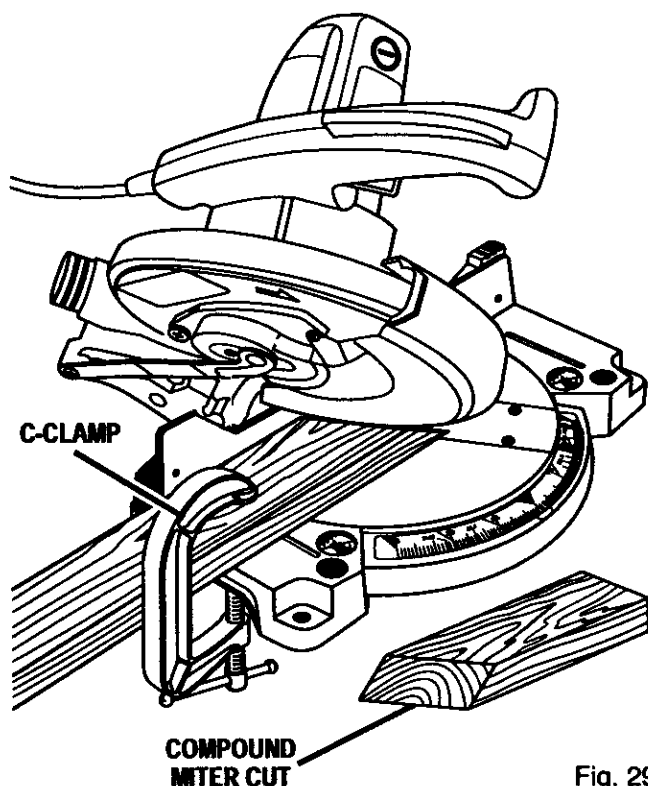

Fig. 29
*See Figures 29 and 30.*
- Grasp the stock firmly with one hand and secure it against the fence. Use the optional work clamp or a C-clamp to secure the workpiece when possible. *See Figure 29.*
- Slowly lower the blade into and through the workpiece. See Figures 29 and 30.